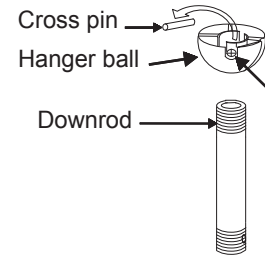

Fig. 8
Step 5. Remove the hanger ball from the downrod assembly by loosening the set screw, unscrewing and removing the cross pin and unscrewing the ball off the rod. (Fig. 8)